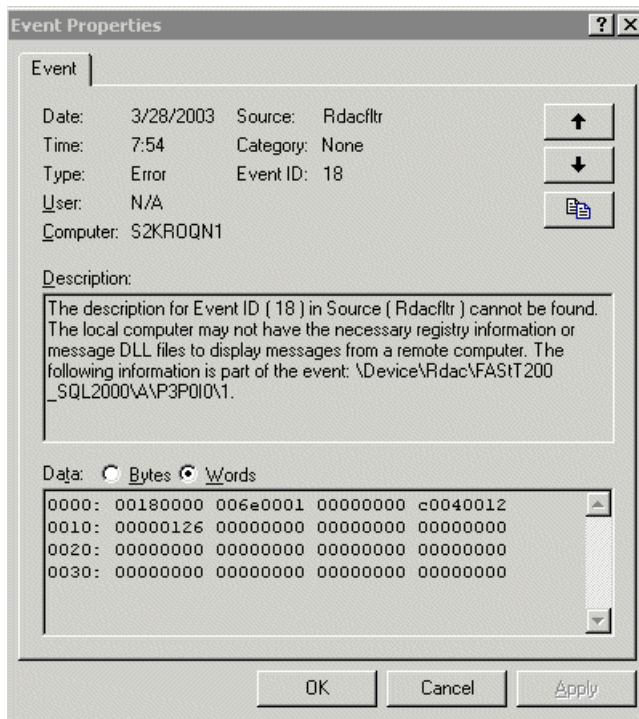

Figure 6-16 RDAC event log entry in Windows 2000
- ▶ RDAC entries. In order to decode RDAC problems display the log in Word data format. The offset 0x010 displays the reason why RDAC logged an entry, in our case 0000126. For a description see Figure 6-16 on page 186. ID 18 events with qualifier value 126 is